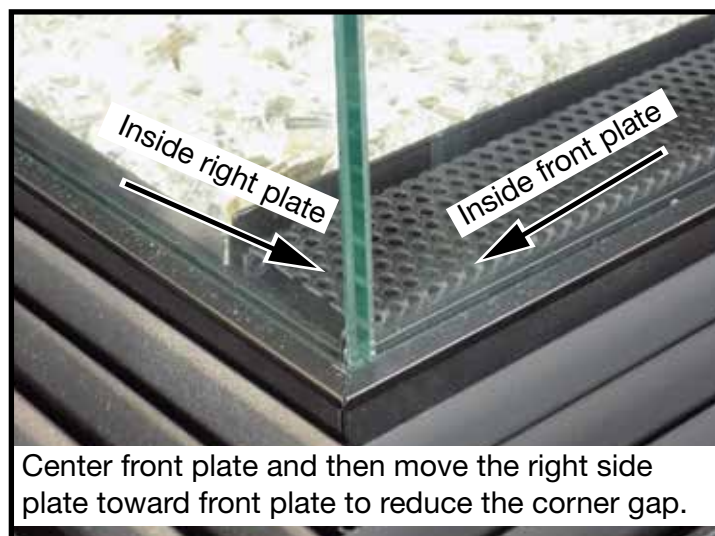

Figure 43: Final position of inside glass plates.
7. Using a suction handle, gently shift the inside right hand glass plate forward in its slot until it just touches the inside front glass plate (Figure 43).